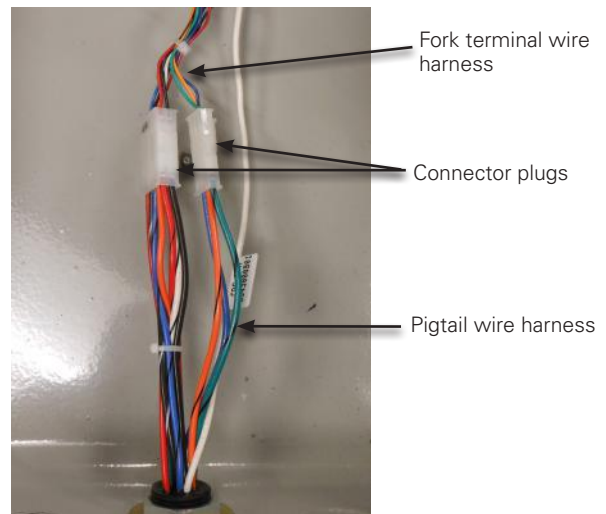

Figure 36. Connecting the fork terminal harness to the pigtail harness.
14. Link together the two connector plugs between the pigtail harness and the fork-terminal harness as shown in Figure 36.